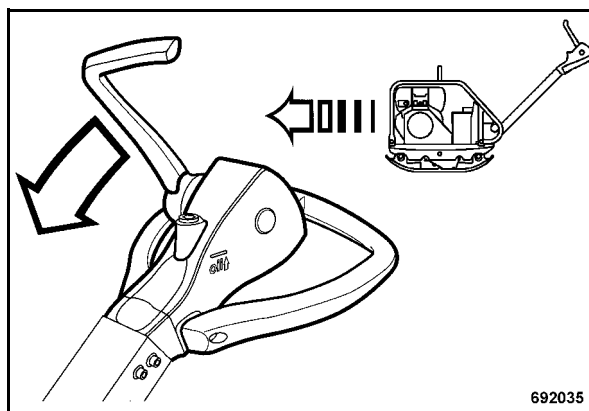

Fig. 26
- Push the travel lever (Fig. 26) forward, until the vibratory plate has reached the desired speed.